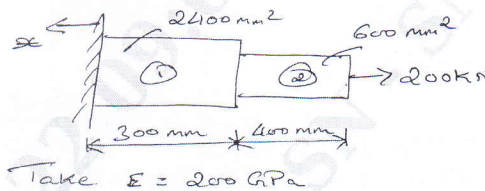

Fig.Q3(b)
- b. Fig.Q3(b) shows 1D stepped bar element subjected to an axial load. Determine :